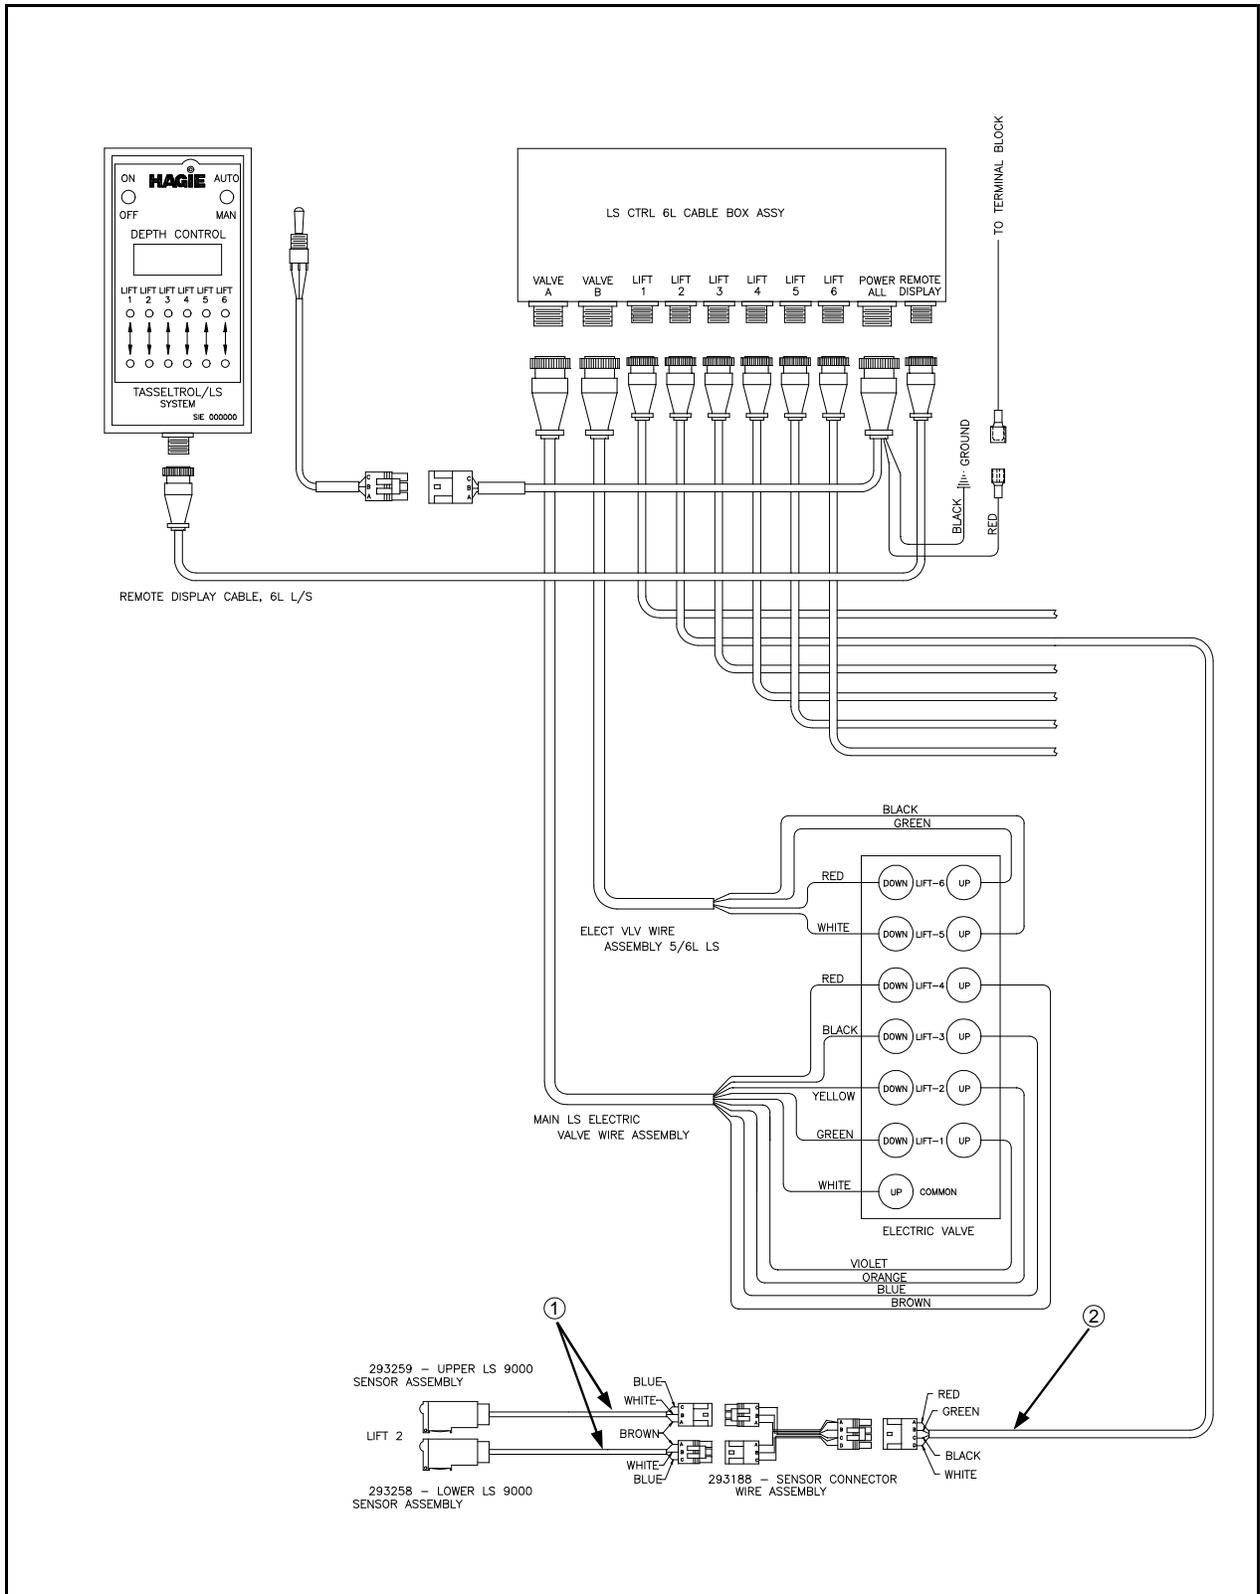

FIG 9.1
No lights at either photo sensor	Faulty connector cable (See page 118, fig. 9.1, item 2) Faulty RED and/or BLACK wire in connector cable (See page 118, fig. 9.1, item 1)
Lights at lower photo sensor	<p>Faulty GREEN wire in connector cable (See page 118, fig. 9.1, item 2)</p> <p>Photo sensor not in line with reflector (See page 34)</p> <p>Faulty BLUE wire in sensor assembly (See page 118, fig. 9.1, item 1)</p>
No lights at lower photo sensor	<p>Faulty RED and/or BLACK wire in connector cable (See page 118, fig. 9.1, item 2)</p>
Lights at upper photo sensor	Faulty WHITE wire in sensor assembly (See page 118, fig. 9.1, item 1)  Faulty BLUE wire in sensor assembly (See page 118, fig. 9.1, item 1)
No lights at upper photo sensor	Faulty RED and/or BLACK wire in connector cable (See page 118, fig. 9.1, item 2)